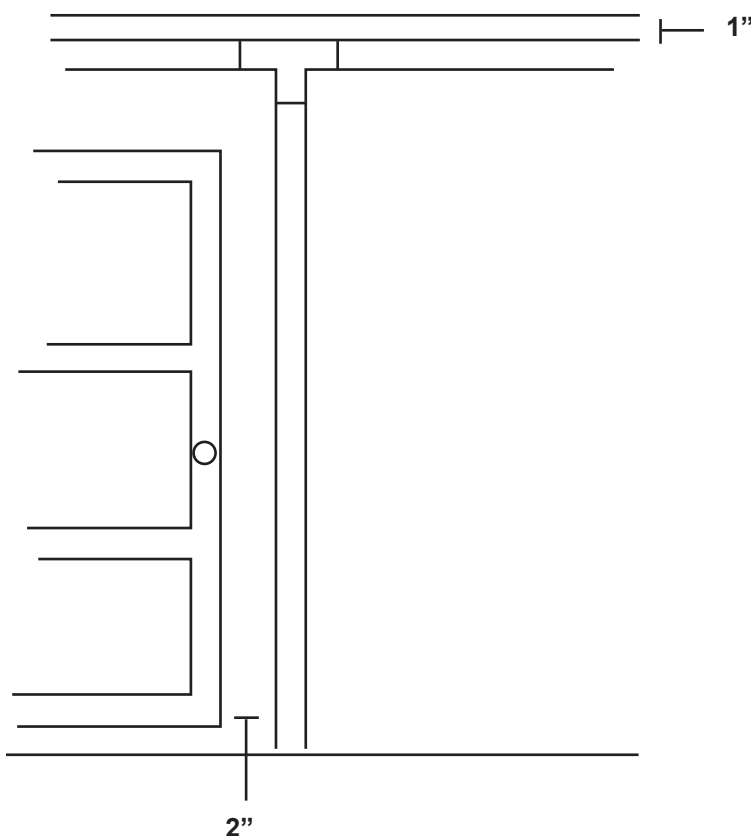

Figure 11.
- Install cable molding so that it meets the ground to enhance the aesthetics of the installation. (Figure 11)